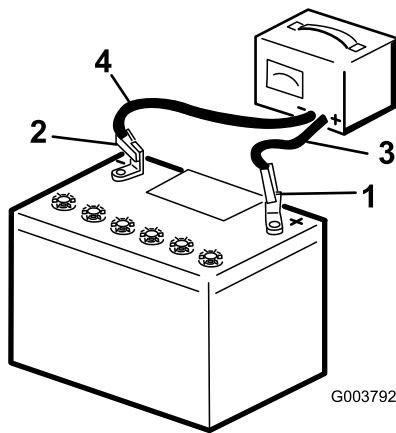

Figure 97
5. Connect the positive lead of the battery charger to the positive battery post (Figure 97).
6. Connect the negative lead of the battery charger to the negative battery post (Figure 97).
8. When the battery is fully charged, unplug the charger from the electrical source, then disconnect the charger leads from the battery posts (Figure 97).